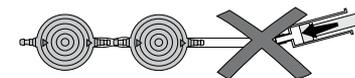

Fig. 22: Avoidance of pressurisation
**Pressure admission through the single-use syringe should be avoided both at the proximal and the distal end (Fig. 22).**